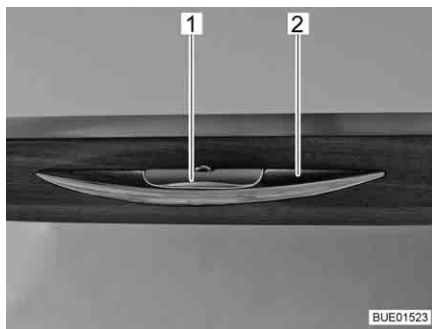

Fig. 46 Furniture flap with release handle
- Press the release handle (Fig. 46,1) and hold it down.
- Pull the handle (Fig. 46,2) until the furniture flap is open.